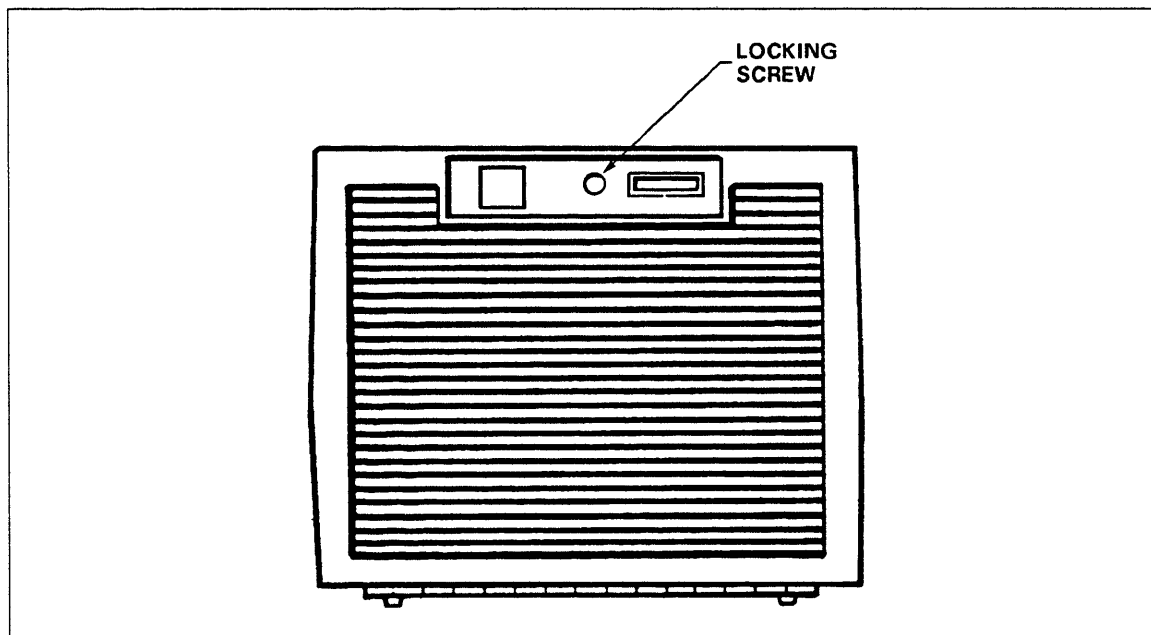

Figure 3-5. DI Cabinet Door Locking Screw
2. Open the cabinet door by using a 3/16-in Allen wrench to turn the locking screw counterclockwise (see figure 3-5).